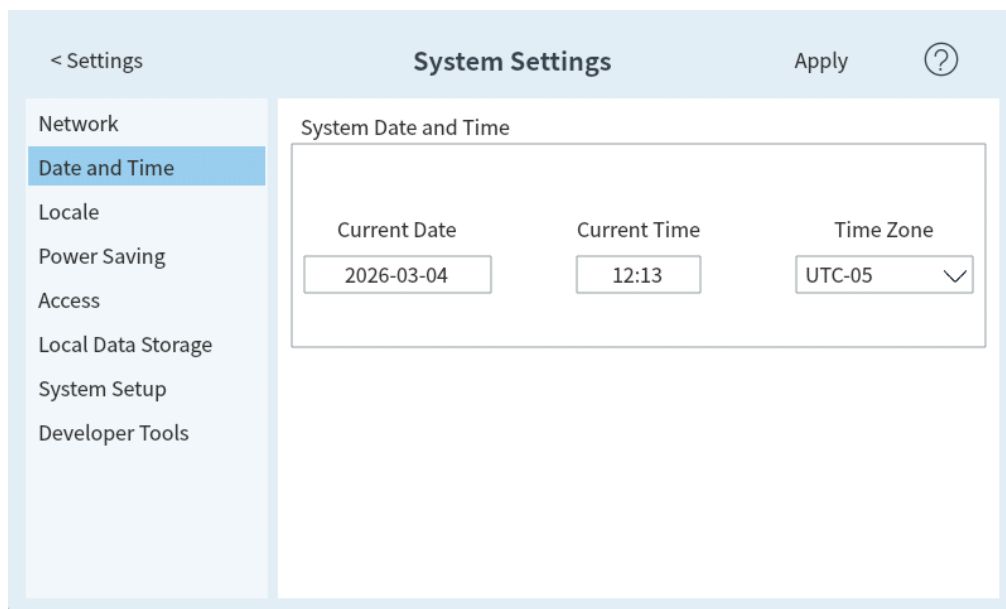

Figure 54. System Settings page
1. From the System Settings page, select the **Date and Time** page selection button. The Date and Time page appears. See Figure 54 .